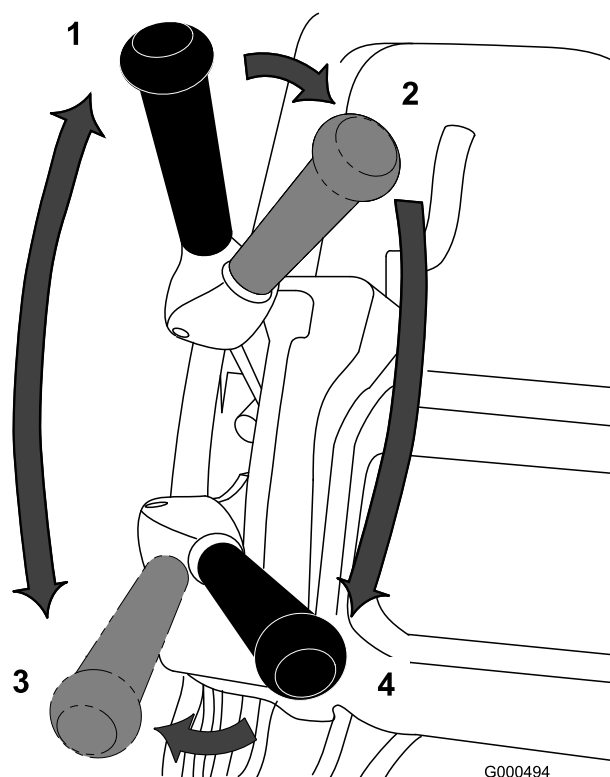

Figure 20
1. Start the engine, set the throttle at reduced speed, push down on handle to raise cutting unit, move traction lever to Engaged position and transport mower onto collar of green (Figure 20).
2. Move traction lever to Disengaged position and Engage reel drive lever (Figure 20).
3. Move traction lever to Engaged position, increase throttle speed until the mower is traveling at the desired ground speed, drive the mower out onto the green area, lower the front of the mower down and commence operation (Figure 20).